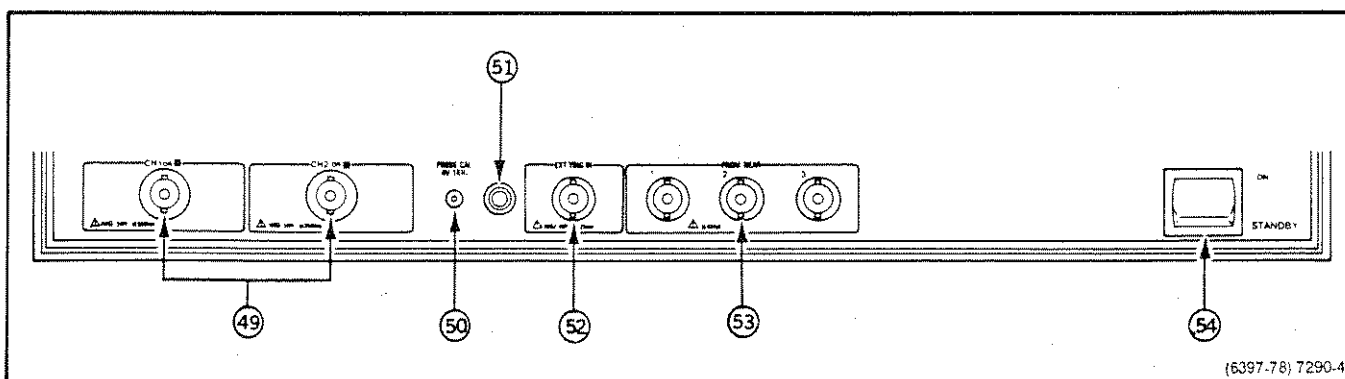

Fig. 3-8. Connectors and power section of front panel.
Refer to Fig. 3-8 for location of items 48 through 53.